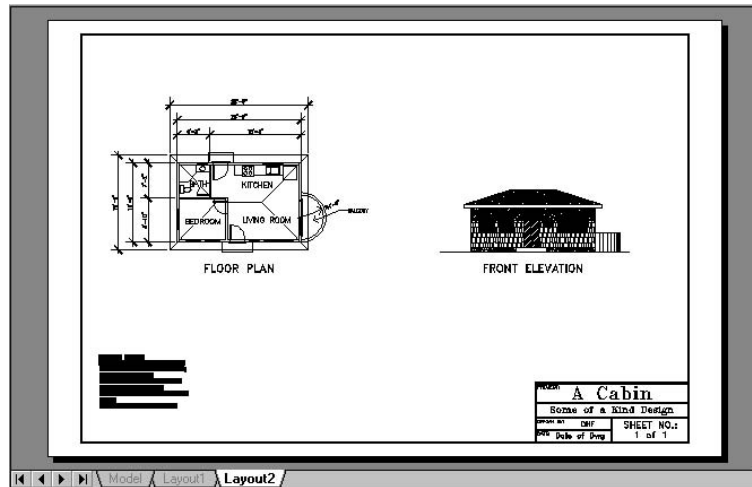

FIGURE 14.14: Preview of the Layout2 tab
8. Click the Preview button. The preview looks fine (see Figure 14.14).